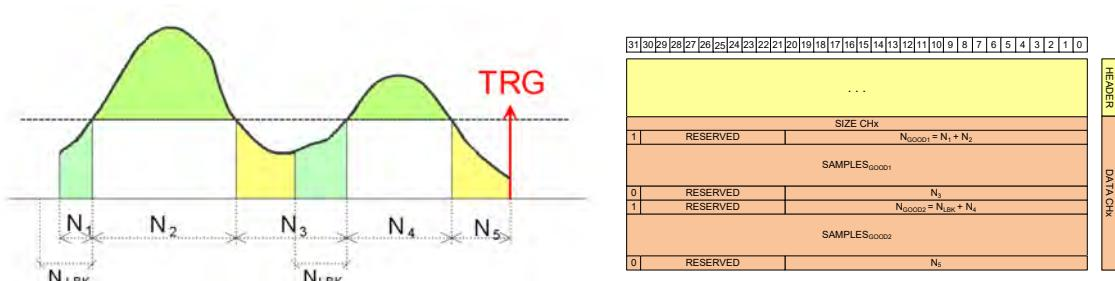

Fig. 7.13: Example with positive logic, N_{LBK} overlapping with N_1 , and $N_{LFWD} = 0$.
2. In some cases the number of data to be discarded can be smaller than N_{LBK} and N_{LFWD} : For example, consider the case where $N_1 \leq N_{LBK} < N_3$ and $N_{LFWD} = 0$ (positive logic) as reported in Fig. 7.13. The corresponding event format is reported on the right. All N_1 samples are tagged as good and acquired.